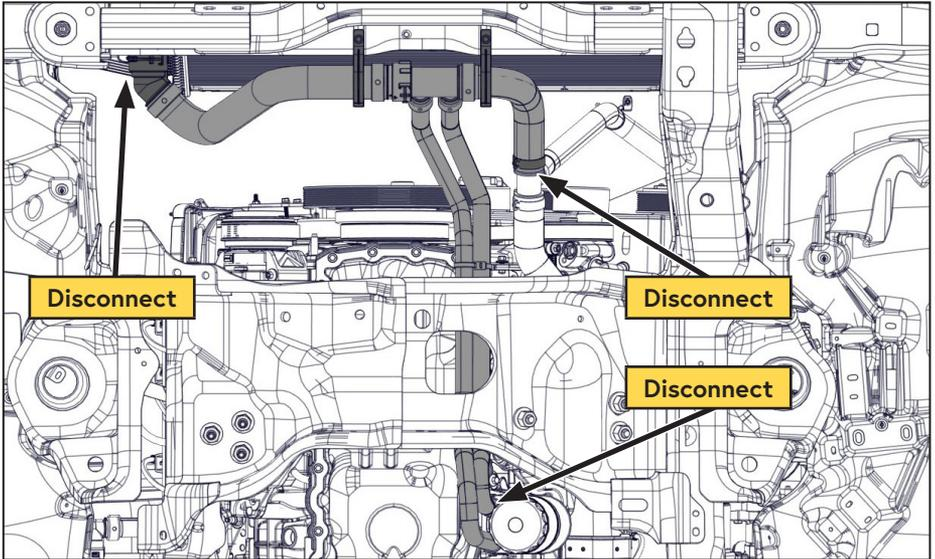

Figure 26 — Remove lower radiator hose assembly
- Remove the assembly from the engine bay (Figure 26).